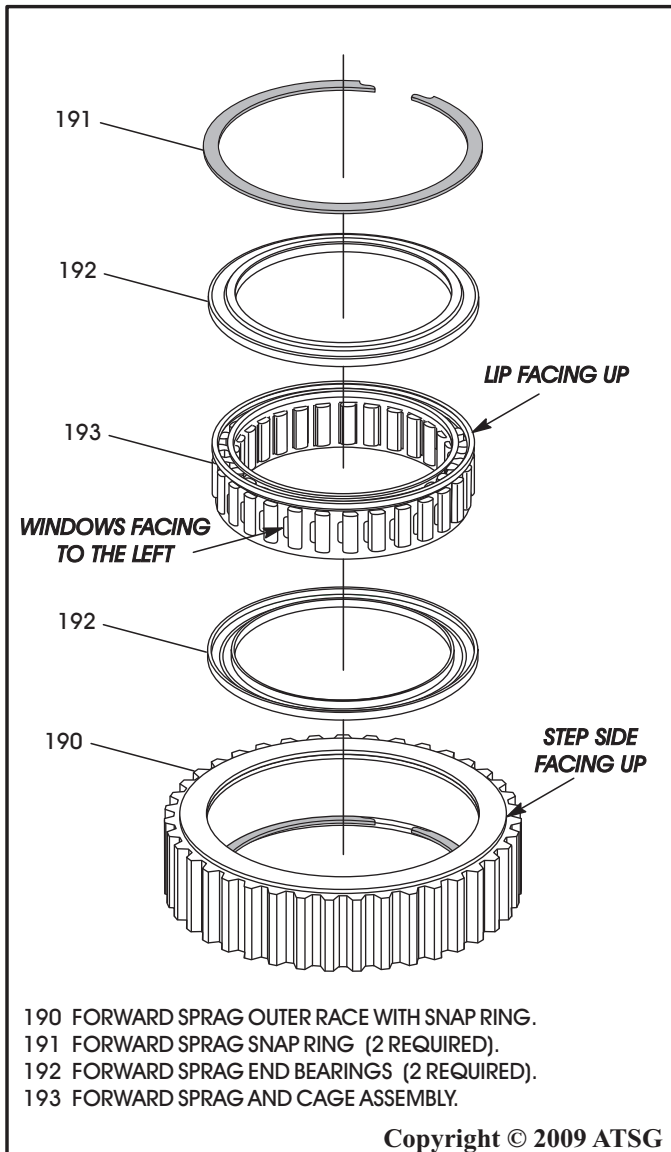

Figure 157
6. Turn the outer race over so the "step" side is facing up, as shown in Figure 157.
7. Install 1st of the end bearings with the "step" facing down, as shown in Figure 157.
8. Install the forward sprag and cage assembly, as shown in Figure 157.
Note: Install with the "lip" facing up and the "windows" facing to the left, as shown in Figure 157.
9. Install the last of the end bearings with "step" facing up, as shown in Figure 157.
10. Install the last snap ring into the groove in the outer race, as shown in Figure 157.